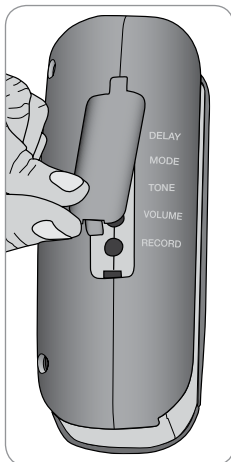

Fig. 14
1. Lift the programming control protective cover (Fig. 14).